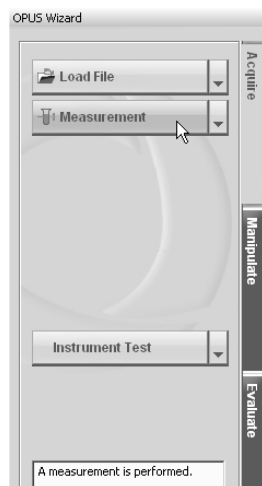
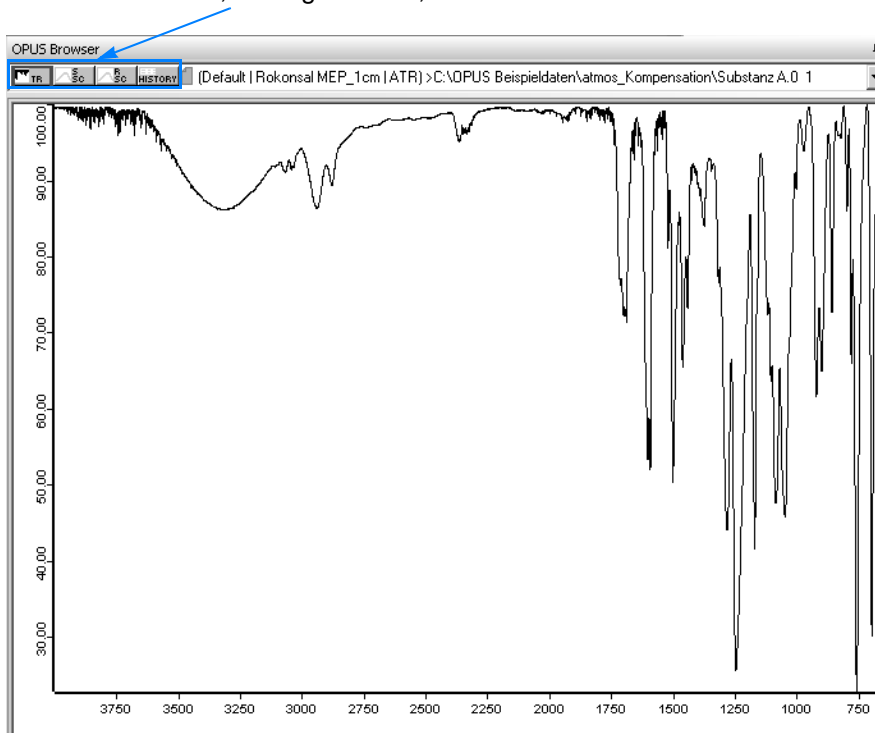

Figure 37: OPUS Wizard - Starting a measurement
Figure 42: Spectrum before an atmospheric compensation
- 1 Click in the OPUS Wizard on the *Measurement* button (see figure 37).
- 1 Measure a spectrum or load the file of the spectrum you intend to manipulate by clicking on the corresponding button in the OPUS wizard (see figure 37). Thereupon, the sample spectrum is displayed in the spectrum window and OPUS switches automatically to the *Manipulate* level.
- 1 Measure a spectrum or load the file of the spectrum you intend to manipulate by clicking on the corresponding button in the OPUS wizard (see figure 37). Thereupon, the sample spectrum is displayed in the spectrum window (as shown in figure 42) and OPUS switches automatically to the *Manipulate* level.
Note: The *Atmospheric Compensation* command requires a spectrum file that includes, amongst others, the data blocks SSC (Sample Single Channel) and RSC (Reference Single Channel). (See figure 42.) Otherwise, an atmospheric compensation cannot be performed.
- 1 Measure a spectrum or load the file of the spectrum you intend to manipulate by clicking on the corresponding button in the OPUS wizard (see figure 37). Thereupon, the sample spectrum is displayed in the spectrum window and OPUS switches automatically to the *Manipulate* level. Depending on the measurement method, the displayed spectrum is either an absorption spectrum or a transmission spectrum or an ATR spectrum.
- 2 Click on the *Go* button. As a result, the *Measurement* dialog window (figure 37) opens again allowing you to start the next sample measurement by clicking on the corresponding button (see section 2.1.2.)